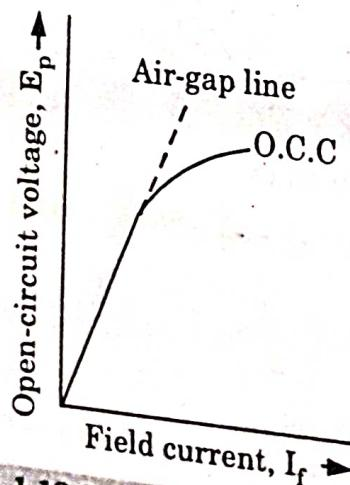

Fig. 1.13.2. O.C.C. of an alternator.
5. The extension of the linear portion of an O.C.C. is called the air-gap line of the characteristic. The O.C.C. and the air-gap line are shown in Fig. 1.13.2.